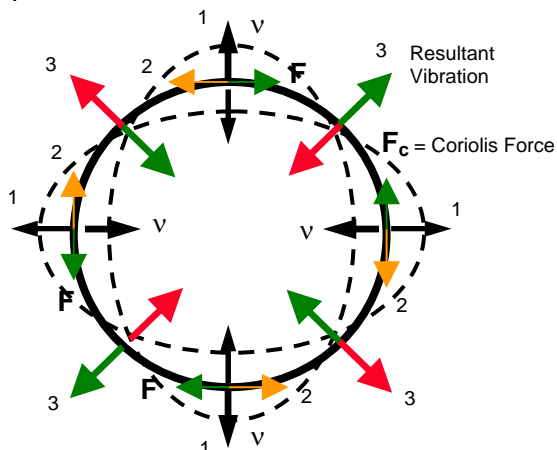

Figure 9
Figure 9 shows the movement of the silicon ring while vibrating:— As the ring oscillates in its natural state the ring moves in the way shown by (1). When the gyro is turned, the Coriolis force acts on the ring as shown by (2). This causes a resultant vibration 45° out of alignment with the primary vibration, as shown by (3). The force required to completely null this resultant vibration is directly proportional to the angular rate.